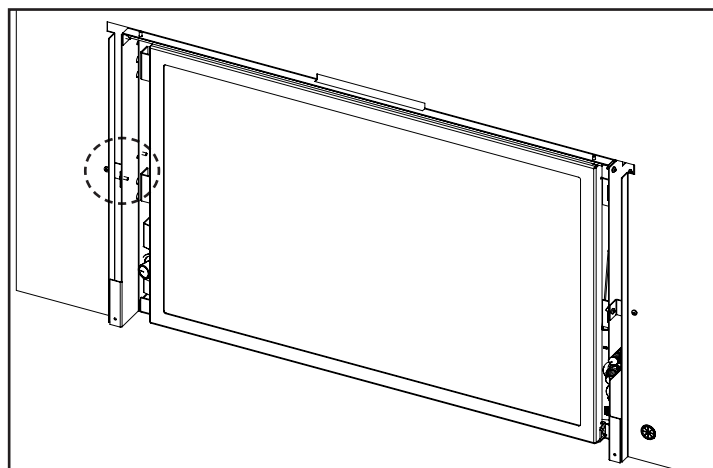

Figure 38: Trimmable Panel Installed
3. Using the remaining hardware attach the Trimmable Panel to the Panel Brackets using a T-20 Torx screwdriver (See Figure 38).